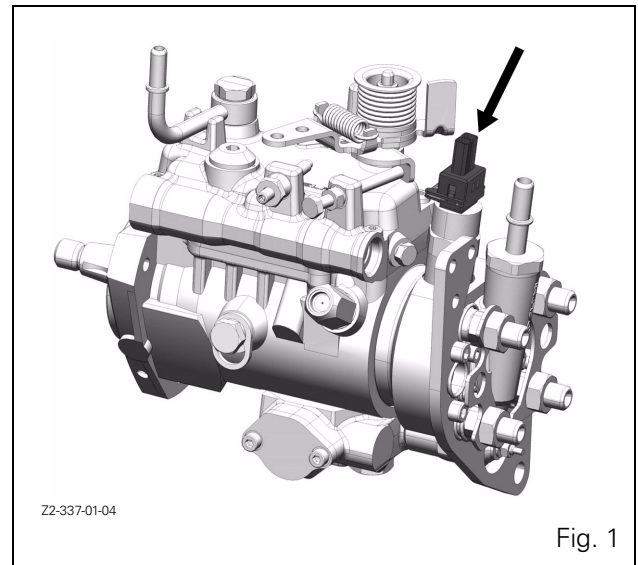

Fig. 1
**CAUTION:** After a long period of no use, run the engine on the starter for about ten seconds to lubricate the turbocharger bearings. To prevent the engine from being started up, disconnect the wire (Fig. 1)